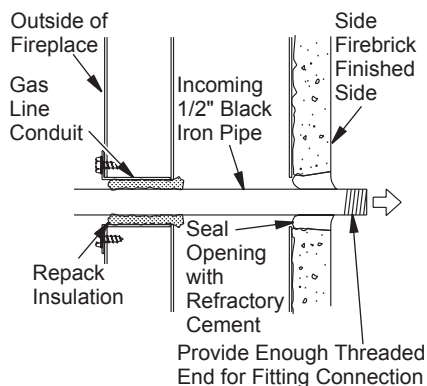

Figure 30 - Gas Line Installation
3. Run gas line into fireplace through the rear at 11 1/4" from floor and through gas line conduit sleeve (if using a raised platform, add height). Provide sufficient gas line into fireplace chamber for fitting connection (see Figure 30). *Note: Secure incoming gas line to wood framing to provide rigidity for threaded end.*